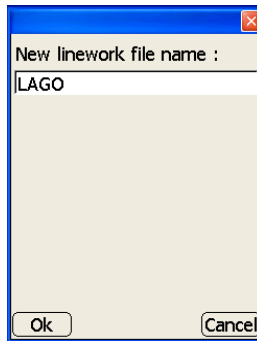

Figure 3-73. New Linework File
- New – enter a name for the linework file. After naming the file, press **Ok** to save the information (Figure 3-73).